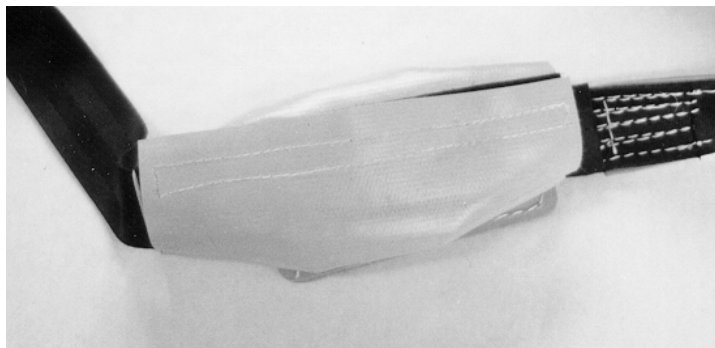

Fig. 10
- f. Cover the ratchet by folding the vinyl flaps of the cover over the ratchet and mating the Velcro strips (Fig. 10).